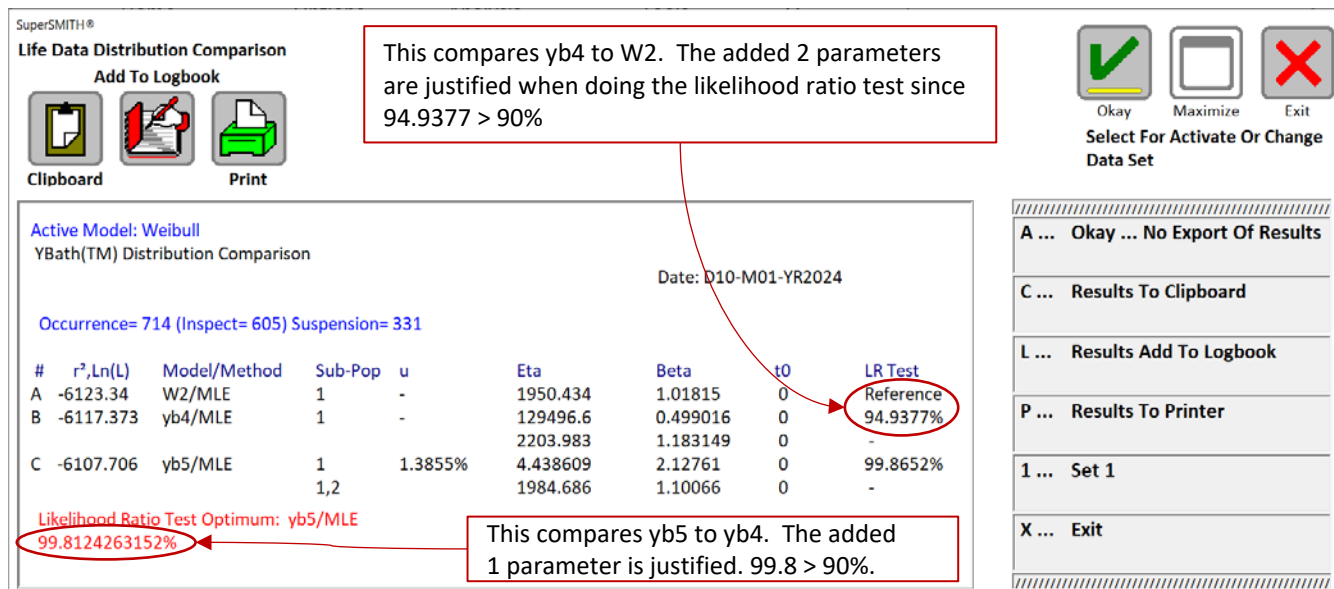

Figure 9: YBath Distribution Comparison
Note the Ln(L) of the different distributions in Figure 9. The note at the bottom notes that yb5 is the best option. The LR test is above 90%, so this indicates that yb5 is a better choice than the 2 Parameter fit. Near the top, it is noted that there are 714 Occurrences and 331 Suspensions. IF you had selected rank regression and turned on Inspection Option 1, there would be 605 points.